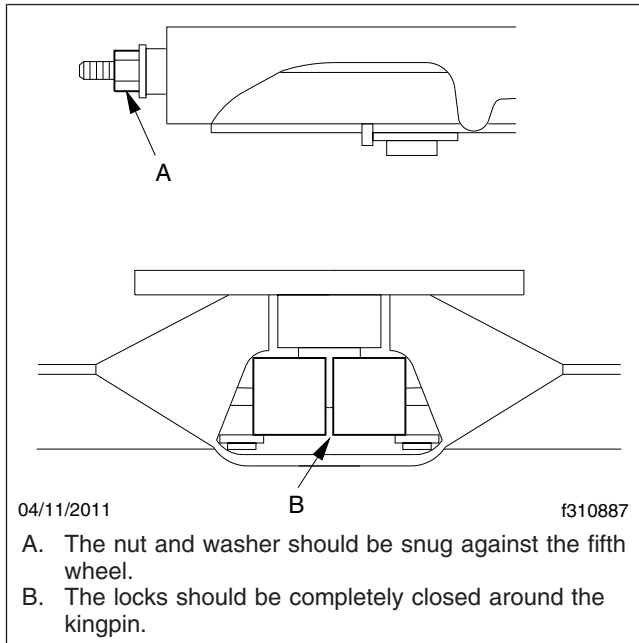

Fig. 4, Holland Fifth Wheel Properly Closed
6. Using a Holland Kingpin Lock Tester (Holland tool number TF-TLN-5001, available through the PDCs as HLD TFTLN5001), check the operation of the locking mechanism by opening and closing the locks. See **Fig. 4**.